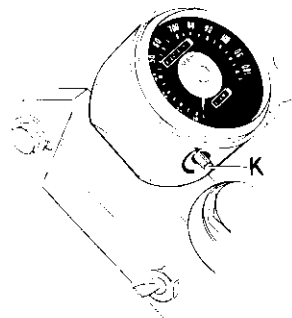

FIGURE 4.
**The Speedometer** (Fig. 4).—The “trip” reading can be set to zero by turning the knob (*K*) in the direction of the arrow.